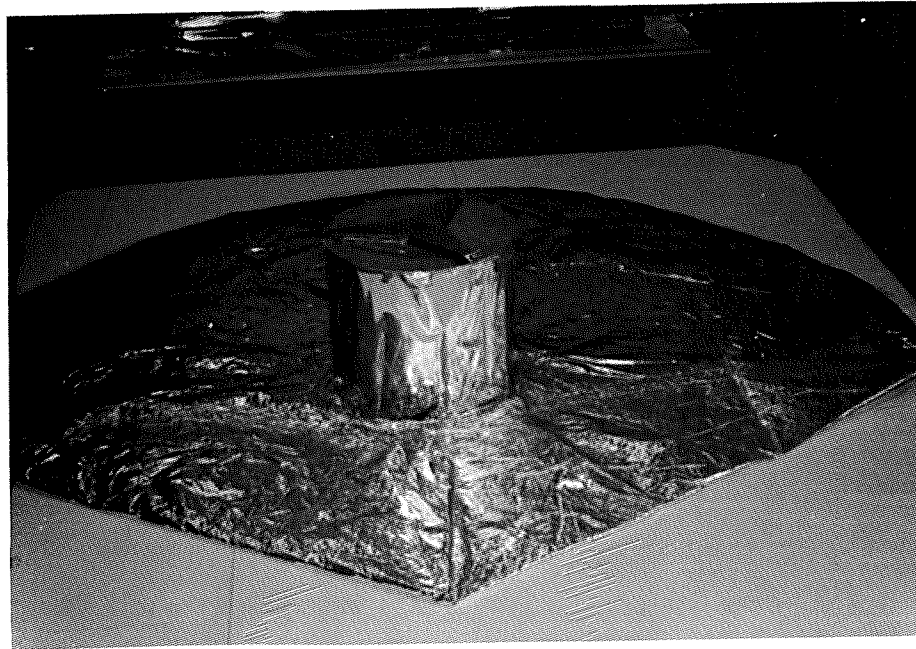

FIG. 3
STEP 3. Make second skirt fold similar to first as shown in Figure 3. Again align edge with upright cylinder and next adjacent skirt button. Squeeze out excess air.